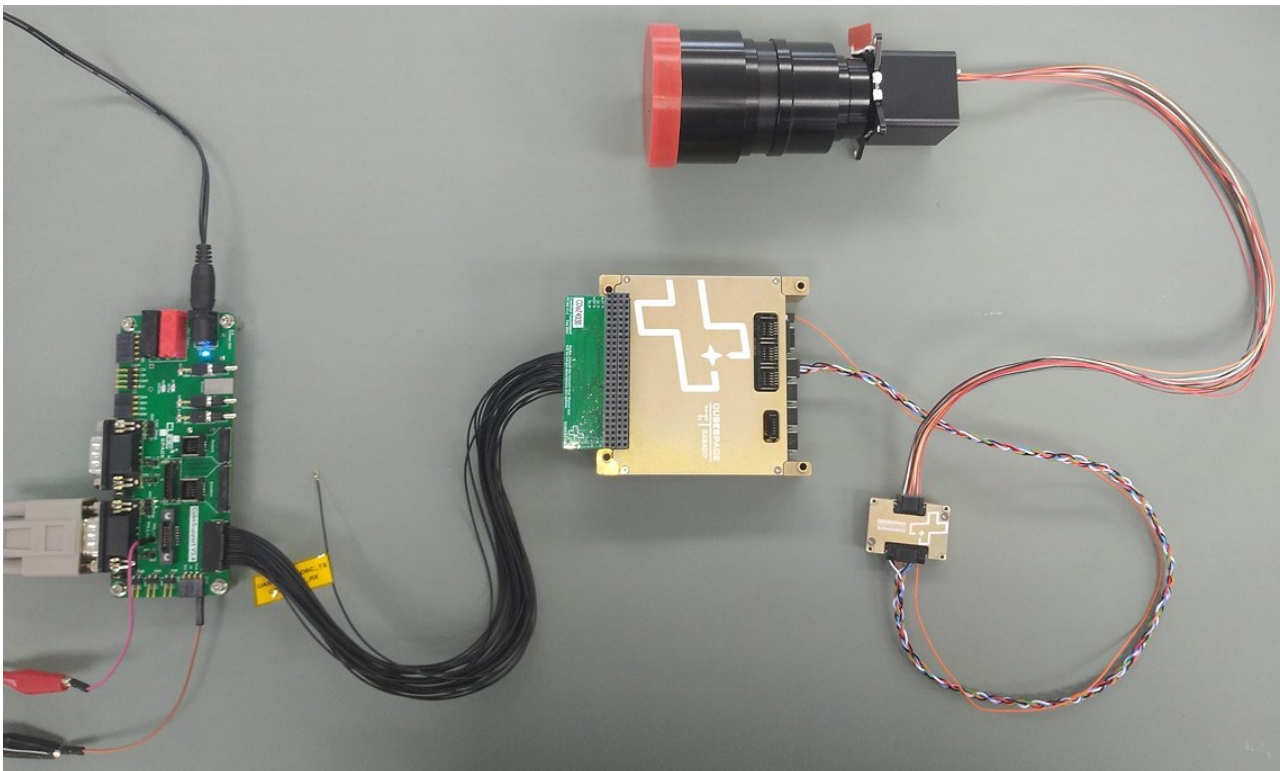

Figure 73: TY-Space Star Tracker connected to the CubeADCS via CubeNode
The setup for the health checking of a TY-Space PST3S Star Tracker is shown in Figure 73, with no other sensors or actuators plugged in, for clarity. Note that the CubeNode-CubeADCS connection requires the correct harness, with the additional PPS header. Also shown is a 1PPS signal supplied from a Function Generator and connected to the CubeSupport PCB as discussed in Section 6.13, specifically Step 2).
- 1) Connect the CubeADCS to the CubeNode(s) and to the CubeSupport board as shown in Figure 73, **but do not connect anything else to the CubeNode output(s) yet**. Connect the CubeSupport PCB to a 12.0V power supply.
- 7) Proceed with performing the remaining connections between the CubeNode(s) and the third-party devices, as shown in Figure 73.